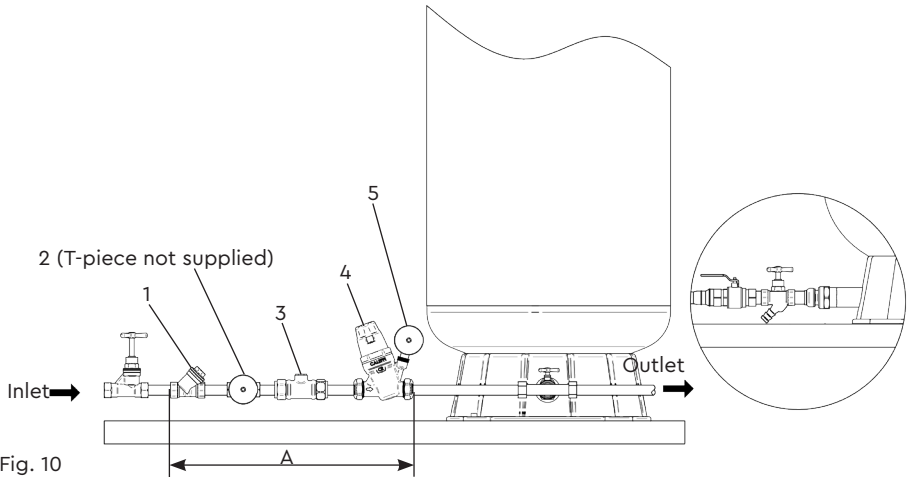

Fig. 10
- d) The vessel assembly should then be positioned and checked to ensure there is sufficient space to install the upstream line-in kit between the stopcock and pressure vessel inlet. Refer to the chart (Fig. 10) as a guide.